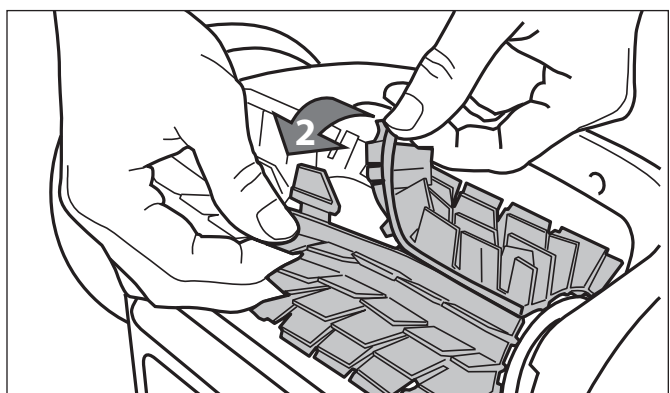

Figure 28. Undo the Tabs of the Brush
2. Separate the edges of the brush and undo the tabs as shown in Figure 28. Remove the worn brushes.